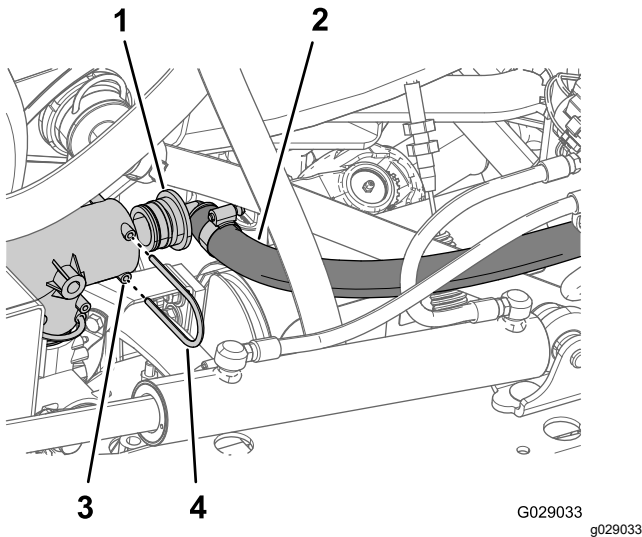

Figure 41
1. Install the reducer hub at the end of the transfer hose into the inboard port of the upper T-fitting (Figure 41).
2. Secure the reducer hub to the T-fitting with a retainer (Figure 41).